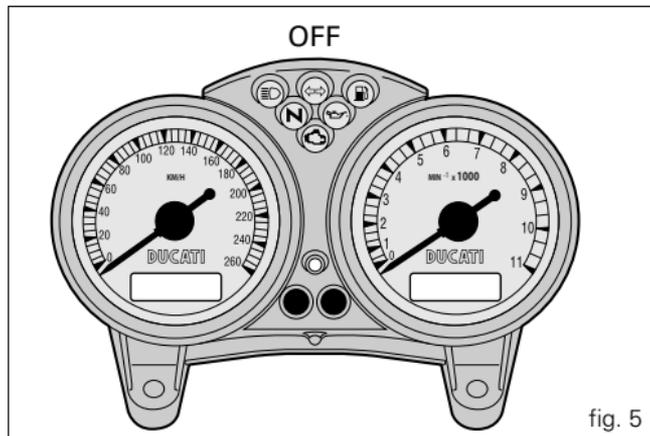
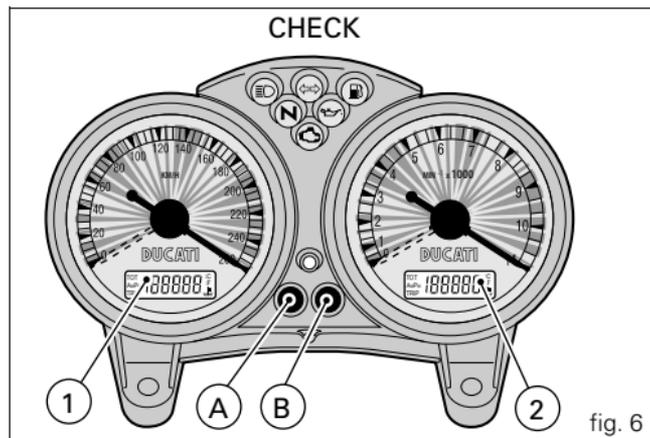

fig. 5
fig. 6
When the engine is switched on (key turned from **OFF** to **ON**), the instrument panel performs a check of all the instruments (dials, display, warning lights), see (fig. 5 and fig. 6).
By pressing button (A, fig. 6) with the key turned to ON, you can cycle between display of the trip counter and the odometer and, if the fuel level warning light is on, the fuel reserve trip counter.
If button (A, fig. 6) is held pressed for more than 2 seconds while the **TRIP** (trip meter) is active, the display is reset (LCD 1).
If button (B, fig. 6) is pressed with the ignition key at ON, the display shows the clock and the oil temperature.
Press button (B, fig. 6) for at least 2 seconds and the time will be shown on display (2, fig. 6).
Select AM/PM by pressing button (A, fig. 6). Press button (B, fig. 6) to select the hour setting function. Press (A) repeatedly to change the hour indication. Press button (B) to change to the minute setting function.
When the fuel level warning light illuminates, the word "FUEL" appears on display (2, fig. 6) and the fuel reserve trip counter function will be activated and indicate on display (1, fig. 6) the number of kilometres travelled in reserve preceded by the letter "F" (FUEL).
The "MAInt" message on display (1, fig. 6) indicates that the service interval has been reached: it will be displayed for 5 seconds each time the ignition is switched on. When the "MAInt" message is displayed, contact an authorised dealer or service centre.
Press button (B, fig. 6) within 5 seconds after the ignition key is turned to the ON position to adjust the brightness of the backlight. The brightness changes at each press of the button.